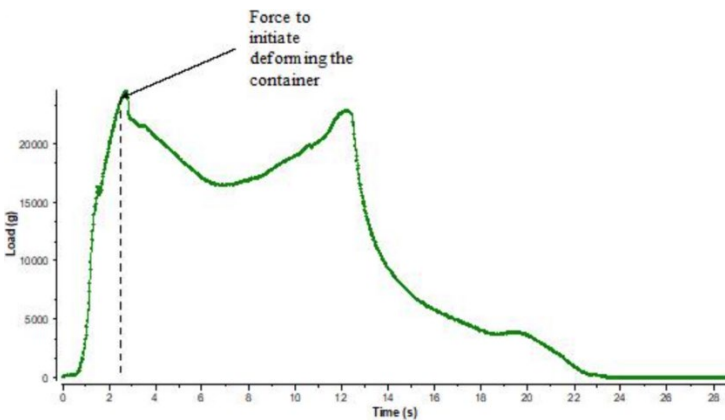

Figure 1
- Figure 1: Force vs. Time graph shows the force required to crush the container.